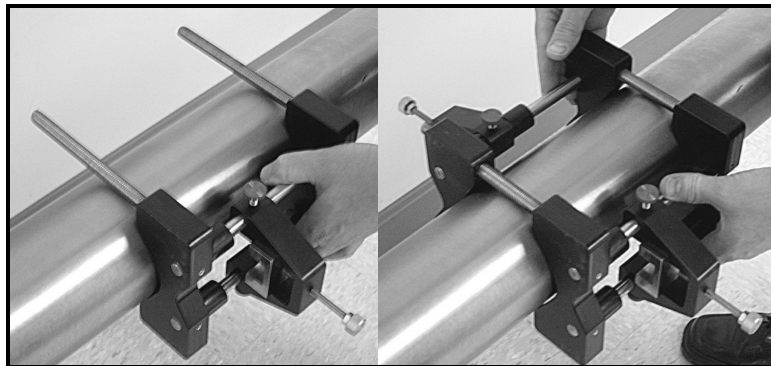

Figure 16: Mounting the Two Halves of the Fixture
1. Position the half of the clamping fixture with the threaded rods around the pipe, as shown in Figure 16 below. Orient the fixture in the 3 o'clock position on a horizontal pipe.
2. Position the mating half of the fixture over the threaded rods in the 9 o'clock position. Figure 16 below shows the two mounted halves.